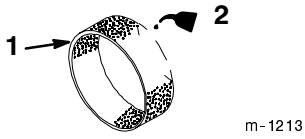

Figure 27
3. Put one or two ounces of oil on the pre-filter (Fig. 27).